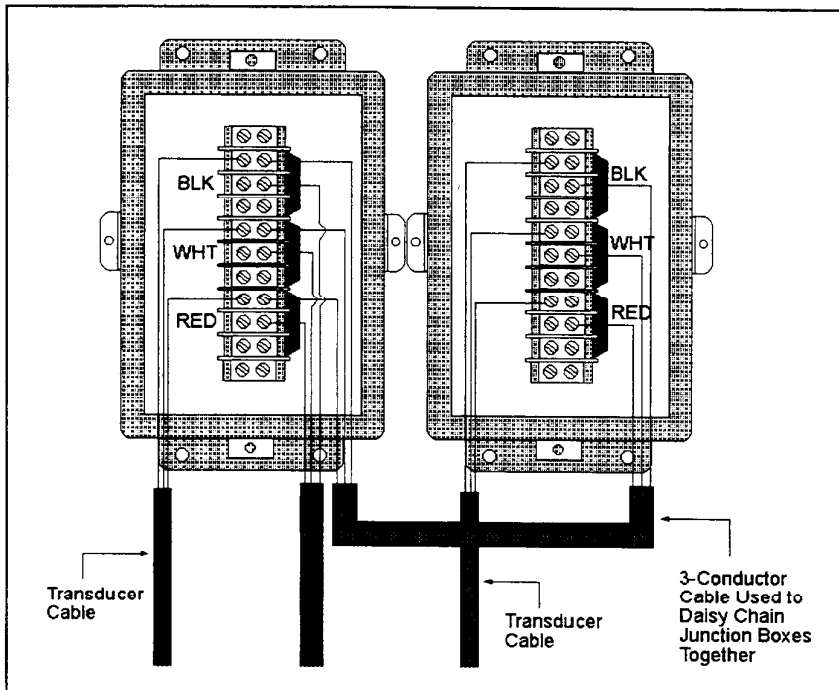

Figure 2-21. Wiring Stainless Steel Junction Boxes Together.
2. Connect the black wire to one of the three terminals designated for black wires, the white wire to one of the white terminal, and red wire to one of the red terminals as shown in Figure 2-21. Use fork lugs to terminate the Load Disc II cable wires.
4. Connect the wires to the terminals, black to black, white to white, red to red as shown in Figure 2-21.